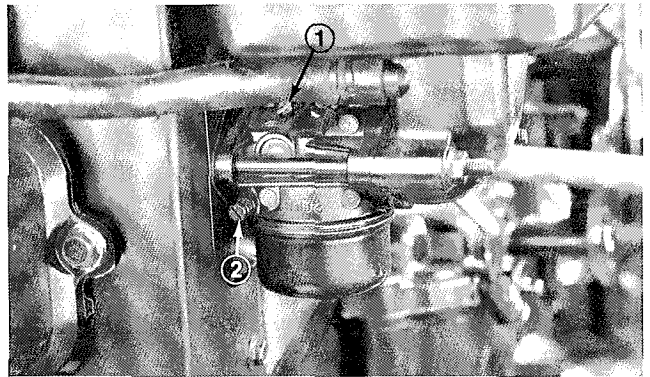

Figure 20
1. Idle Fuel Screw (Fig. 20) — Close screw by gently rotating it clockwise.
2. Rotate — open — the screw 1 turn counterclockwise (Fig. 20).
4. **Idle Speed Screw (Fig. 20)** — Set the idle speed to 1200 rpm  $\pm$  75 RPM by turning the idle speed screw in or out. Check speed with a tachometer.
5. **Idle Fuel Screw (Fig. 20)** — With throttle in slow position, turn screw out (counterclockwise) until the engine speed decreases (rich). Note position of the screw.